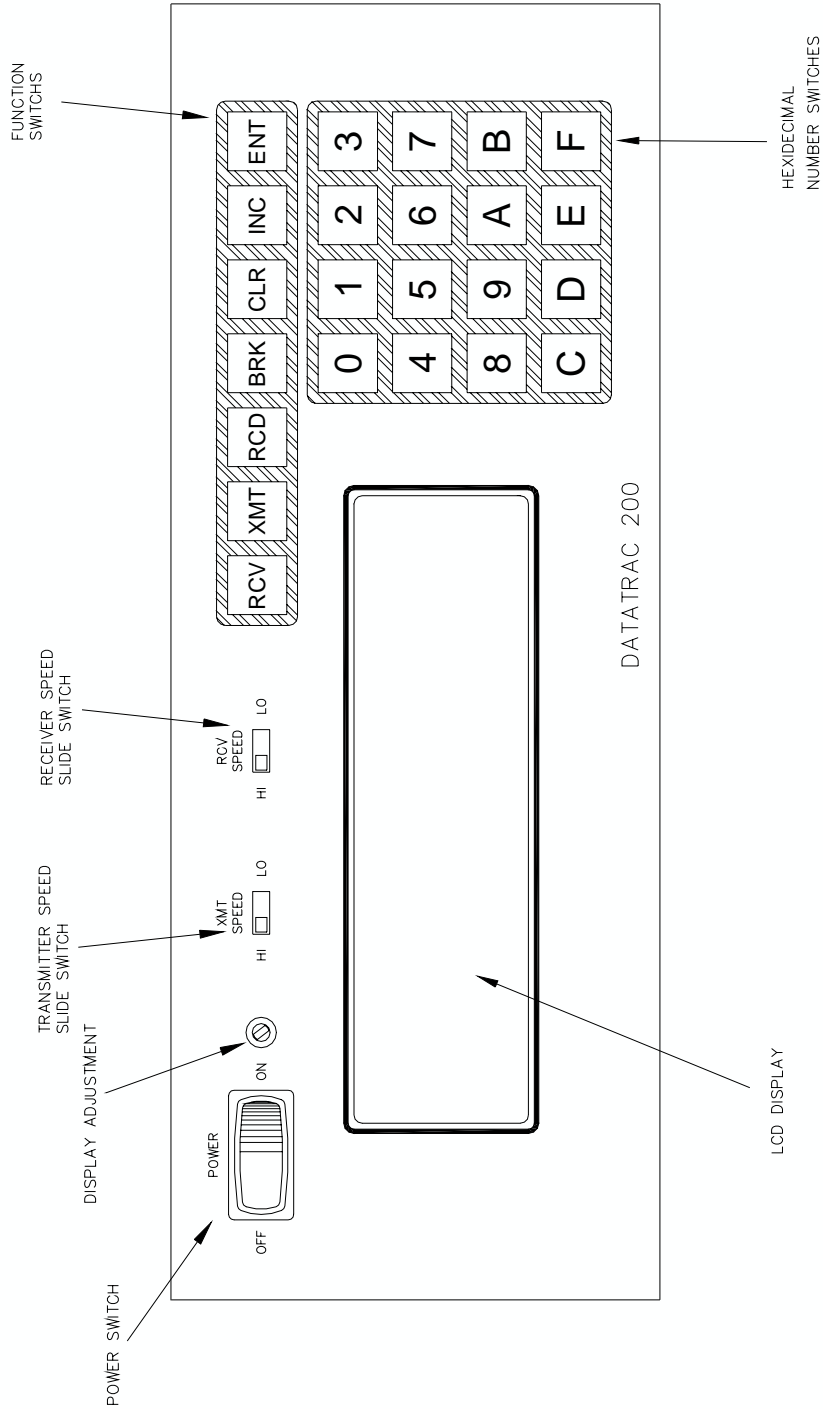

FIGURE 1-1
The front and rear views of the unit are illustrated in Figures 1-1 and 1-2, respectively. The eight line display allows viewing of many data words simultaneously. It also supports a highly simplified setup of functions through the use of menu screens.
The display may be adjusted for contrast and viewing angle with a pot located on the front panel next to the power switch as shown in Figure 1-1.
This section provides detailed instructions for operation of all functions of the DATATRAC 200. Independent subsections are dedicated to the two different bus standards: ARINC 429 and CSDB. A highly consistent format is used in the menu driven setup of all modes. Figures 1-1 and 1-2 containing illustrations of the front and rear views of the unit will be referred to frequently in the text.
Whether the operator has selected A429 or CSDB, four basic modes or functions are available to aid in the development and testing of his digital systems. These modes are receive, transmit, record, and break and are selected with the first four pushbuttons in the function row (top row of seven buttons shown in Figure 1-1). The user is prompted to select one of three functions, receive, transmit, or record, at this point in the setup. The break function is active only when the receiver has been setup and can not be selected here in the initial setup menu. After the initial selection of a function on this menu, the user may transition between functions by completing the current setup screen and then pushing the desired function button. The theory of operation remains the same for both modes with only slight variations for data format differences between A429 and CSDB.
The receiver speed slide switch is indicated in Figure 1-1 and must be set for either the 100 KHz (HI) or 12.5 KHz (LO) speed of the received bus.